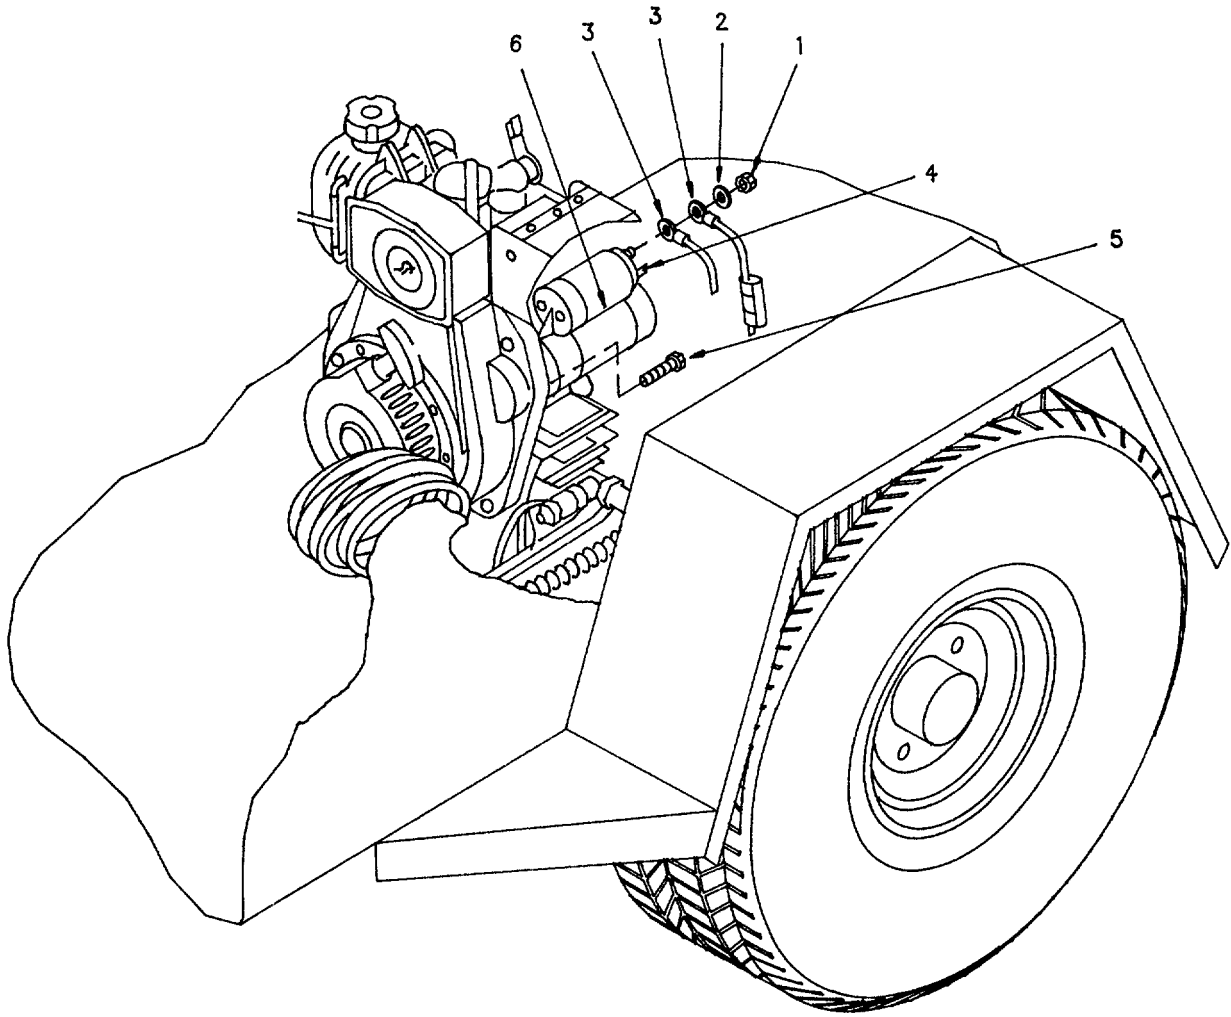

Figure 4-7. Engine Starter Motor.
- (1) Remove exhaust muffler (para. 4-20).
- (2) Remove plain hexagon nut (1, Figure 4-7) and flat washer (2) from engine starter motor.
- (3) Remove wires (3).
- (4) Remove spade terminal wire (4).
- (5) Remove cap screws (5) holding engine starter motor (6).
- (6) Remove engine starter motor (6).